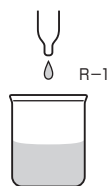

Fig.1
1. Fill the beaker with 15 mL of sample and add 5 drops of R-1 reagent. (Fig.1)